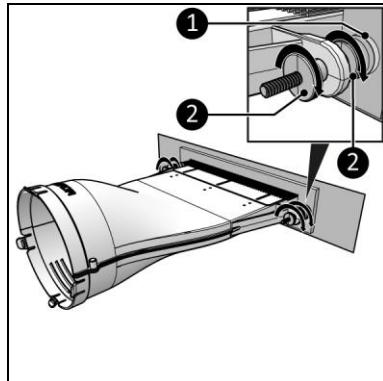

Figure 5
3. Adjust and tighten both sides using the adjusting screws (Figure 5, pos. 2).
4. Make sure the supports (Figure 5, pos. 1) are pressed against the inside of the door.